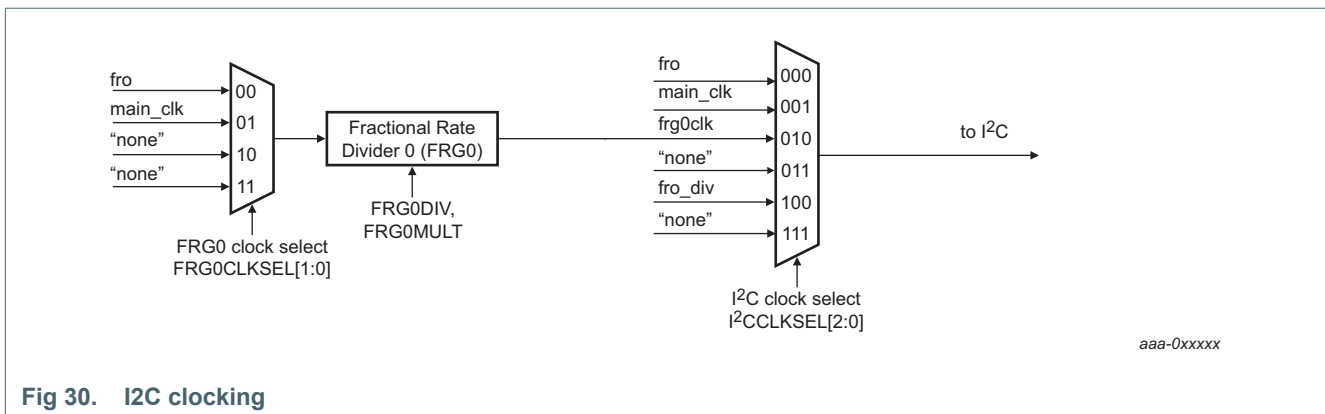

Fig 30. I2C clocking
- The peripheral clock for the I2C can be selected by the I2C0CLKSEL register among the FRO, main\_clk, frg0clk, and fro\_div clock sources (see Figure 30).